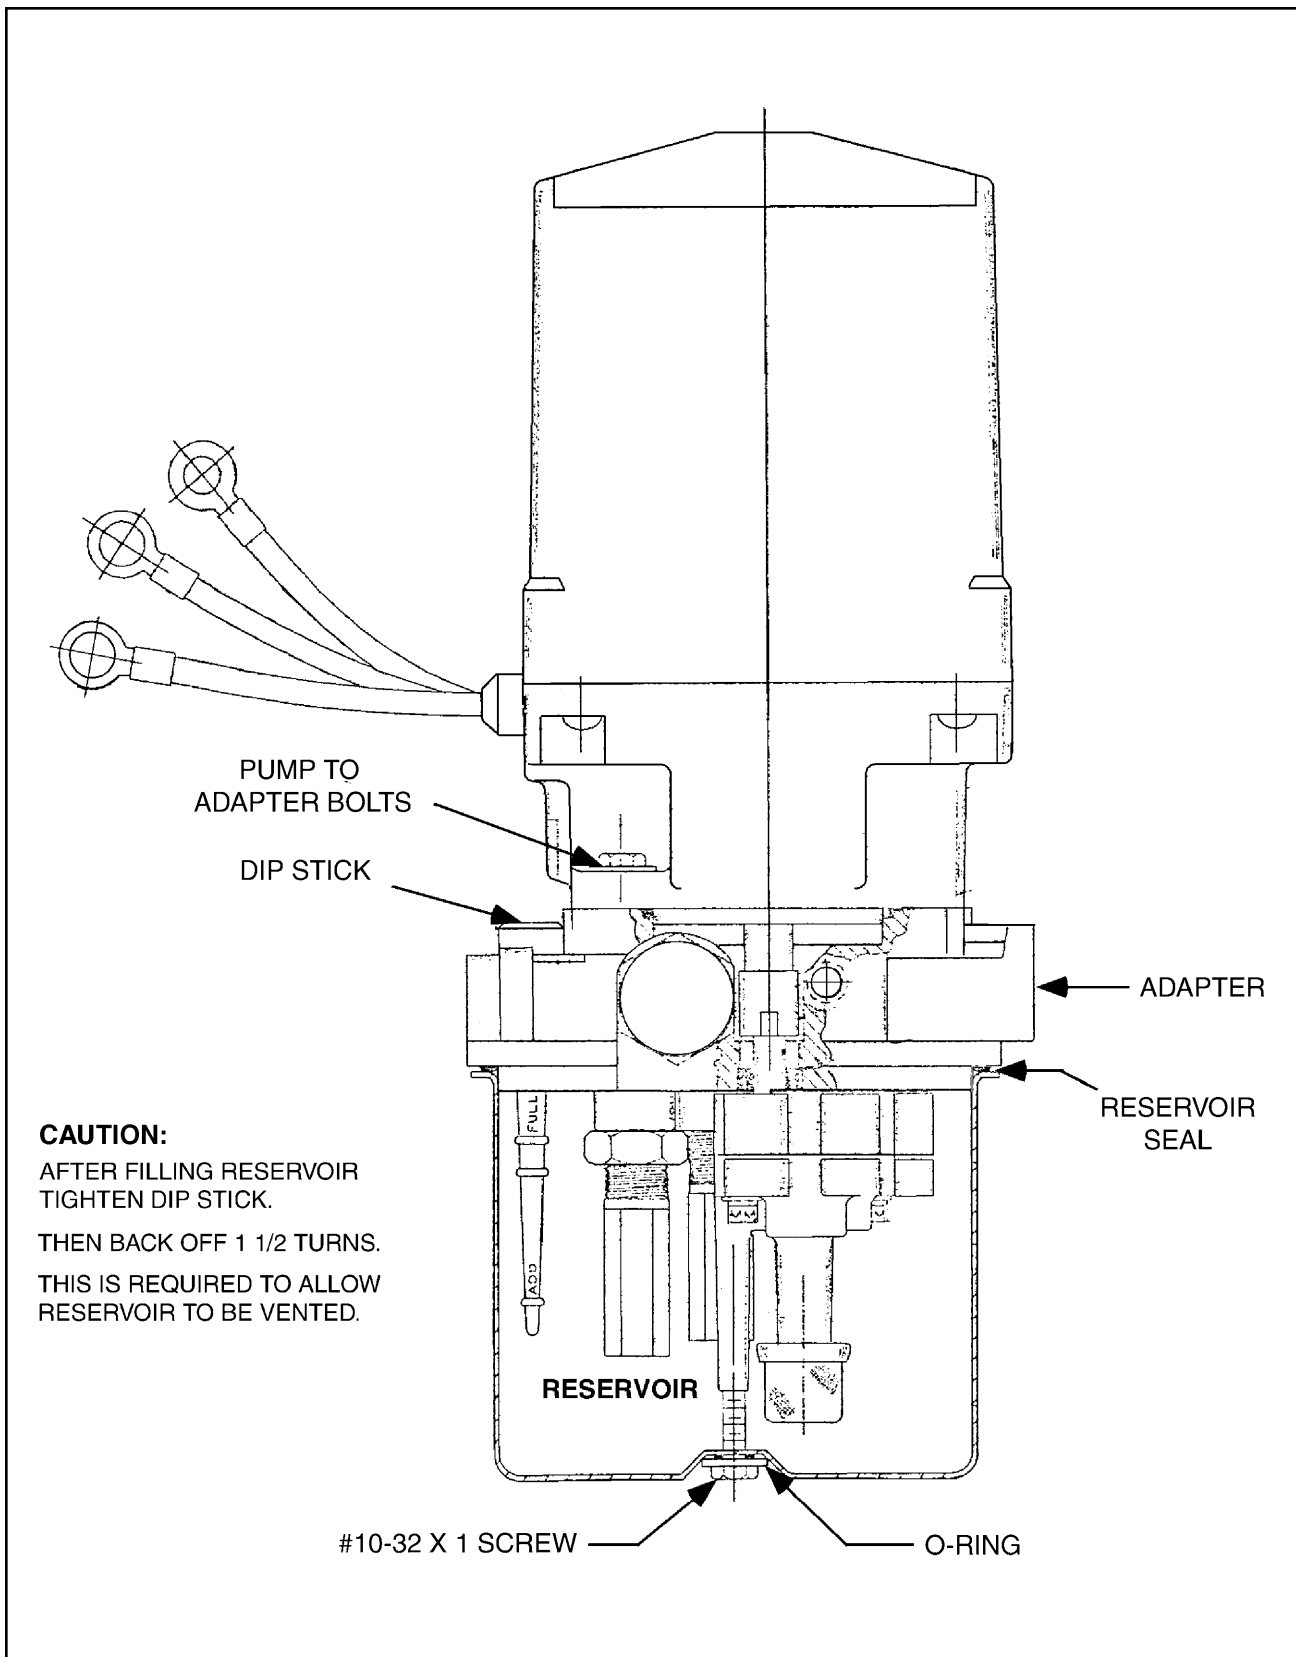

Figure 6-5a. Hydraulic Pump/Reservoir (Sheet 2 of 2)
3. Reservoir (3) and Pump-Adapter (2) (Keyed to Figure 6-5a.)